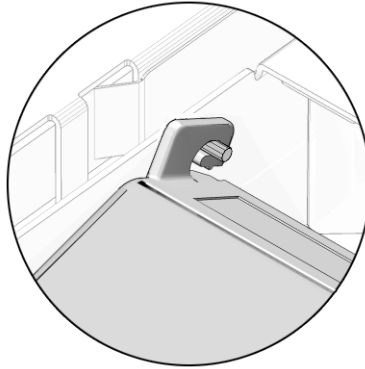

FIGURE 4-8 Unhooking the DIMM/CPU Duct From the Pins of the Chassis
3. Unhook the duct from the pins of the chassis (FIGURE 4-8).
2. Position the duct vertically over the pins of the chassis and hook the duct to the pins of the chassis (FIGURE 4-8).